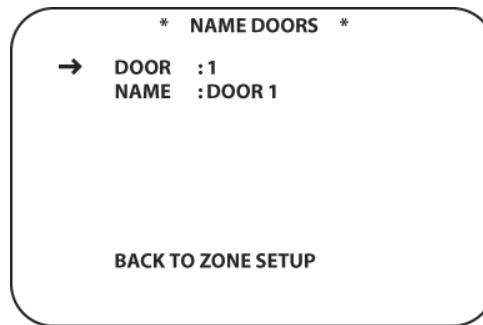

Figure 108 Name Doors Screen
1. From **ZONE SETUP PAGE 1**, with the cursor next to **NAME DOORS**, press the **Set Button [oval 18]**. The **NAME DOORS** screen will appear. (**Figure 108**)